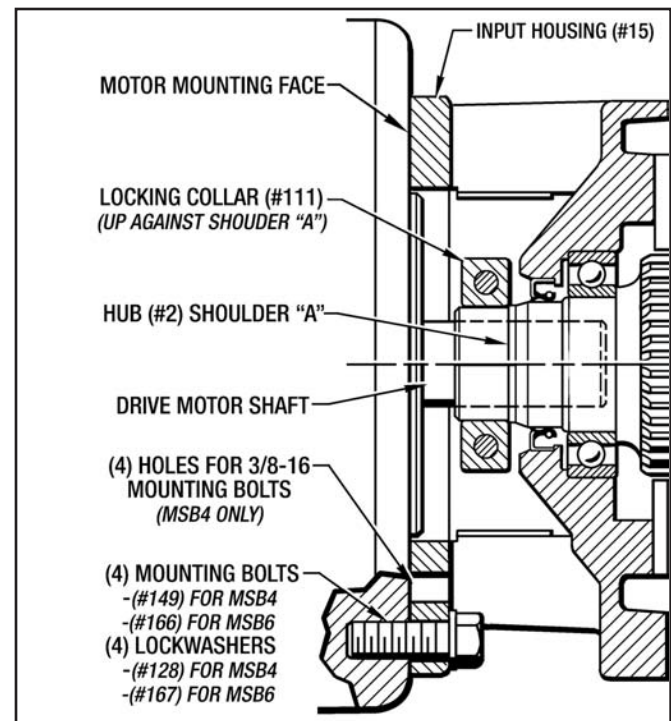

Figure 3.5 - Installing MSB4 & MSB6 To Drive Motor
2. Push the Locking Collar (#111) back against the small shoulder "A" on the Hub (#2) as shown in Figure 3.5. Slide the Brake Unit onto the motor shaft as far as it will go. Align the (4) mounting holes with the motor and attach with (4) Mounting Bolts and (4) Mounting Lockwashers. Finger tighten the (4) bolts. Make sure the brake is snug against the motor face.